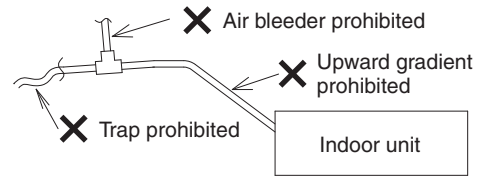

Fig. 3-91
- Do not install the drain pipe with an upward gradient from the drain port connection. This will cause the drain water to flow backward and leak when the unit is not operating. (Fig. 3-91)
- Do not install an air bleeder as this may cause water to spray from the drain pipe outlet. (Fig. 3-91)
- Do not provide U-trap or bell-shaped trap in the middle of the drain pipe. Doing so will cause abnormal sound. (Fig. 3-91)